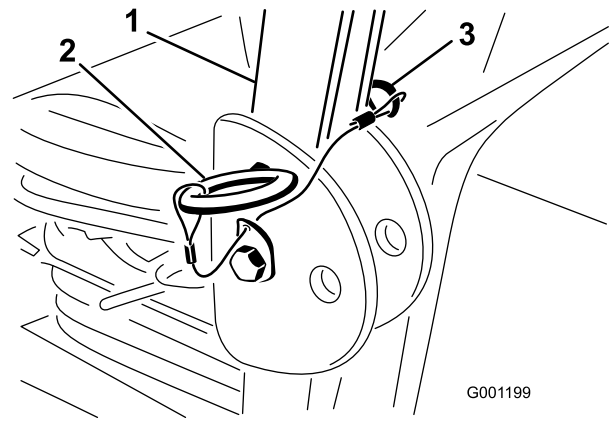

Figure 8
- Raise the roll bar to the upright position and install the 2 pins and secure them with the hairpin cotters (Figure 8).
- Remove the hairpin cotter pins and remove the 2 pins from the roll bar (Figure 8).